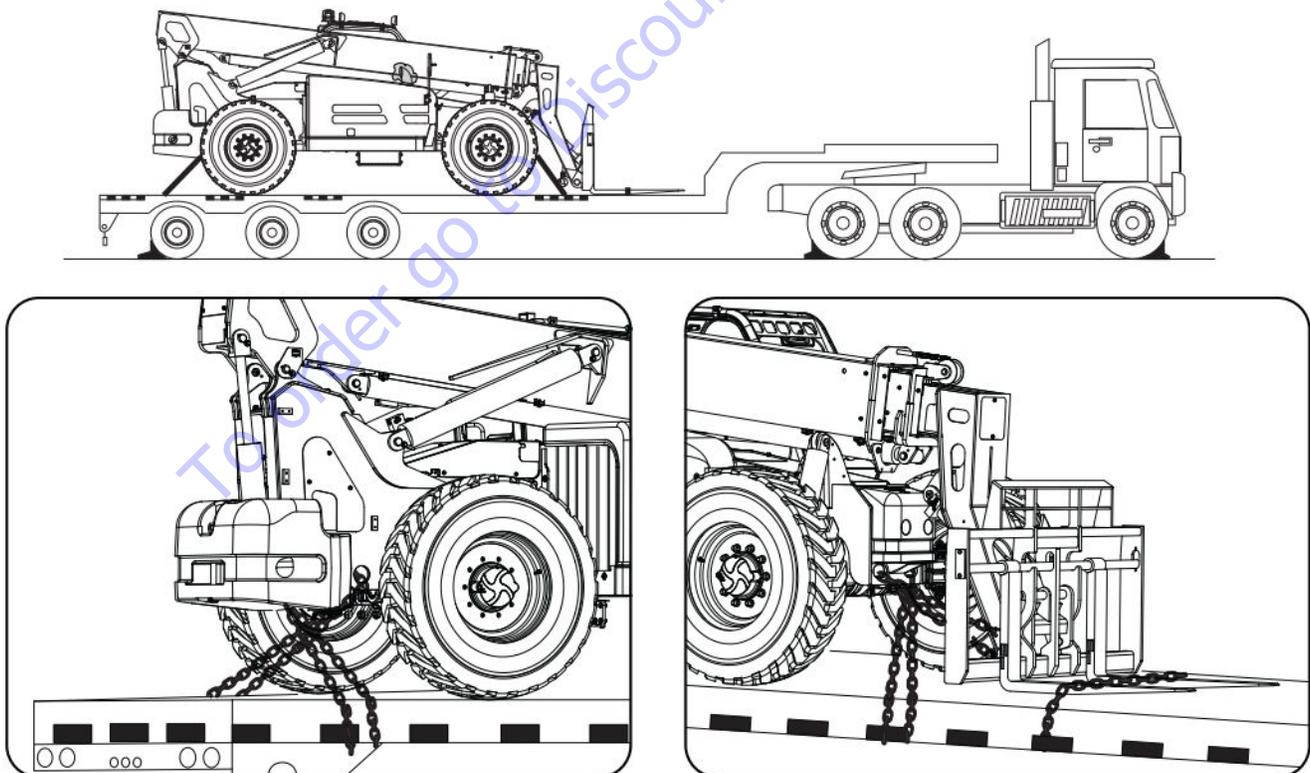
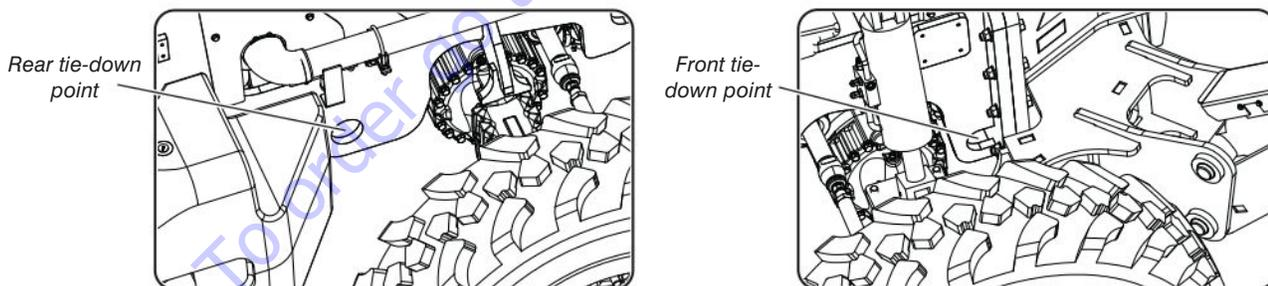

Figure 52 Tie-down points
Figure 53 Front and rear tie-down point locations
10. Anchor down telehandler to transport surface using tie-down points (see Figure 53) and secure the forks to the platform using sufficient straps (see Figure 52).